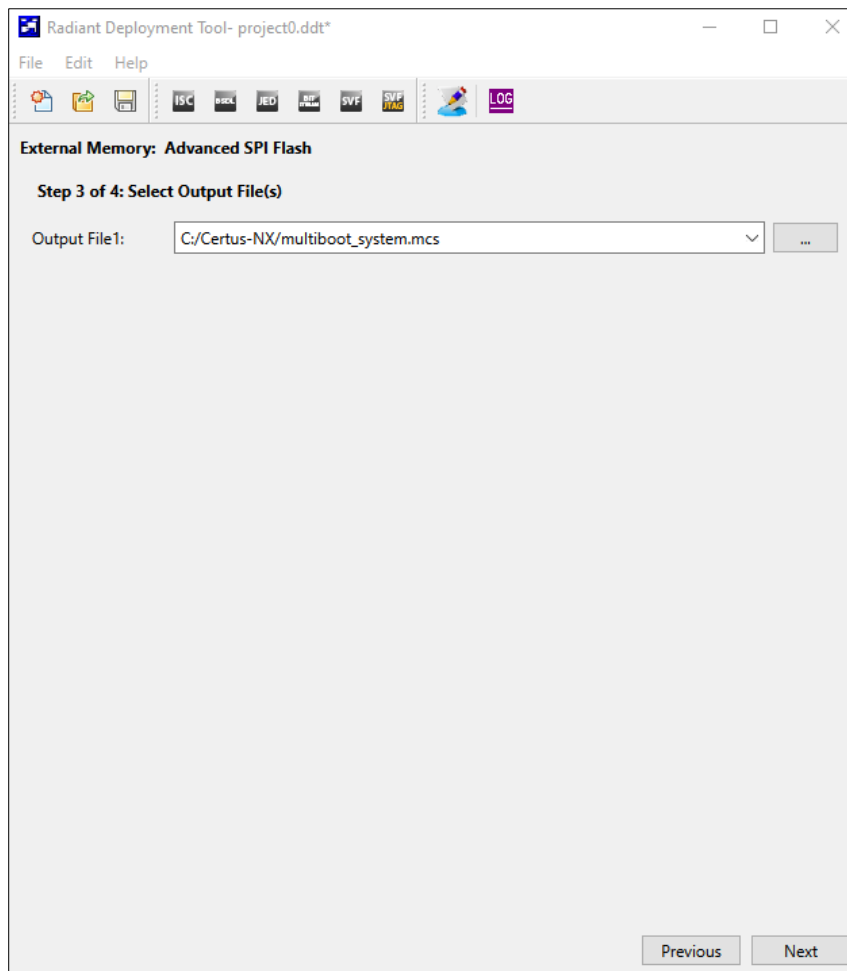

Figure 7.63. External Memory Step 3 of 4: Select Output File(s)
8. In **Step 3 of 4: Select the Output File(s)** as shown in Figure 7.63. Choose the location on your machine to generate a *.mcs* file.